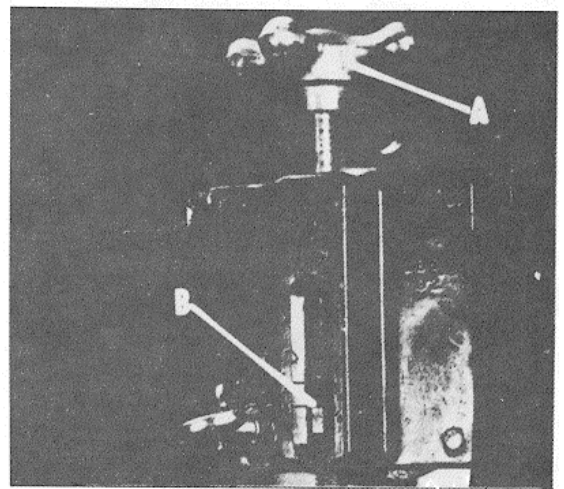

Fig. 13
On the back of the upper wheel slide bracket there is a series of graduations. These indicate the proper tension for various widths of blades. With the blade on the wheels, turn the star wheel (A) Fig. 13, to raise or lower the wheel, until the red fiber washer (B) is in line with the proper graduation for the size of blade being used.